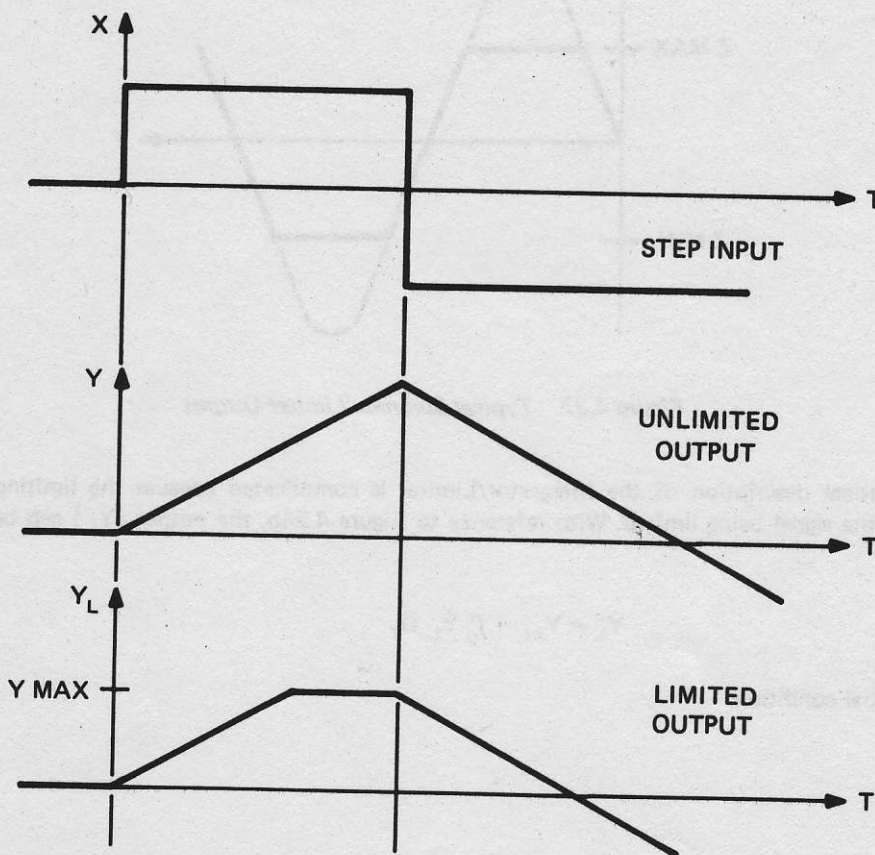

Figure 4.38 Typical Input/Output Waveforms For An Unlimited And a Limited Integrator
Figure 4.38 shows the response of an unlimited integrator and a limited integrator to a step input.
8. The limited Integrator is often mis-applied by novice programmers. It should be clear from figure 4.38, that the signal  $X$  is the derivative of  $Y$ ; not  $Y_L$ . In physical processes, a limit constraint on a state variable implies that its derivative is being forced to zero. It is the programmer's responsibility to faithfully represent the physical phenomenon that is being simulated.